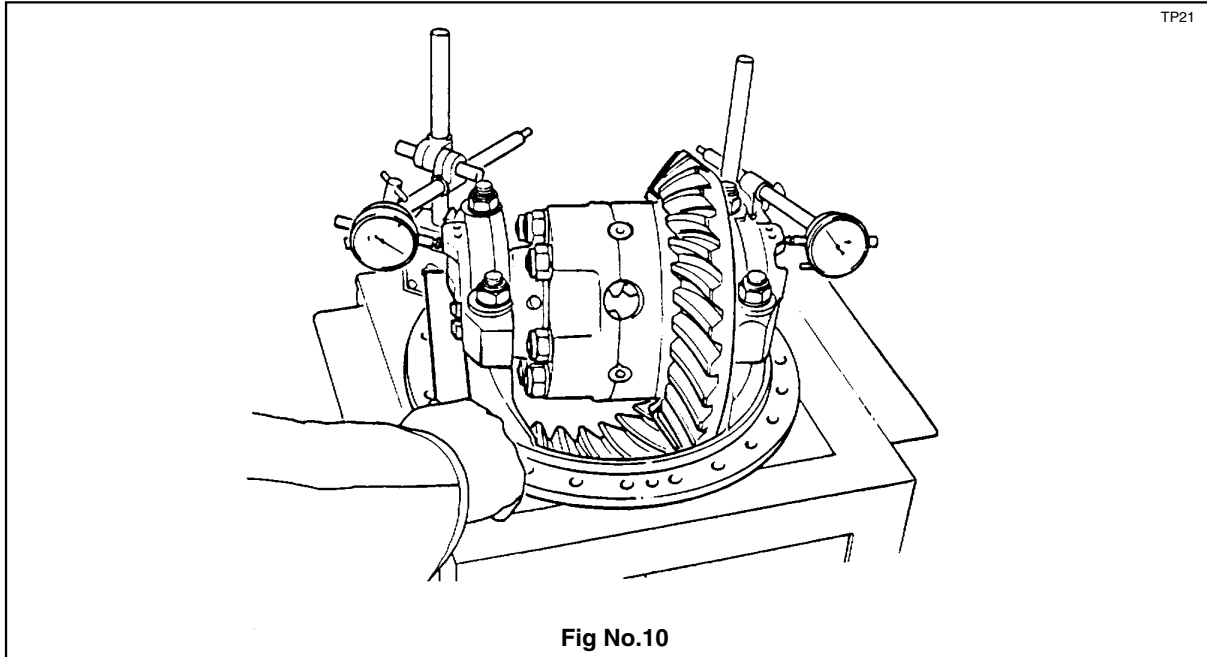

Fig No.10
16.1 Set up two dial indicators diametrically opposite on bevel casing strap register points as shown in fig. no.10 and set each indicator to zero.